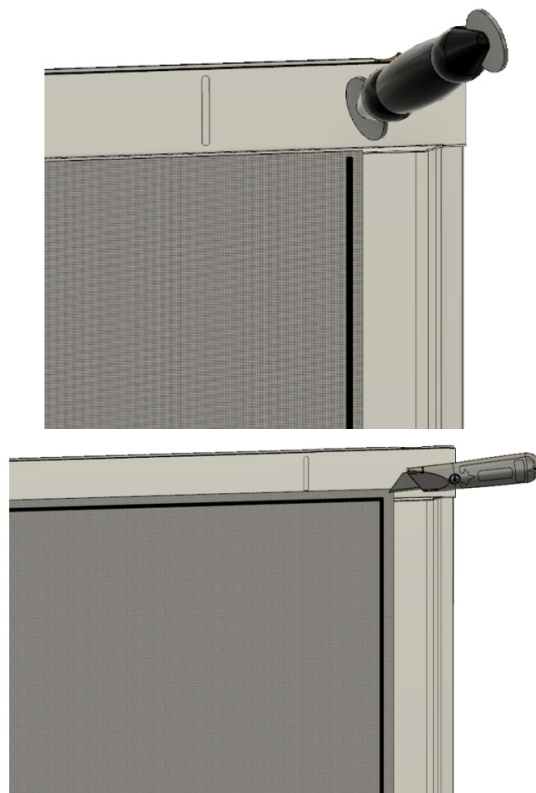

Figure 5
**STEP 3.....**Install screen mesh into frame (Scan QR code on mesh bag, (SEE FIG. 5), see instructions on mesh bag, and/or follow below steps)